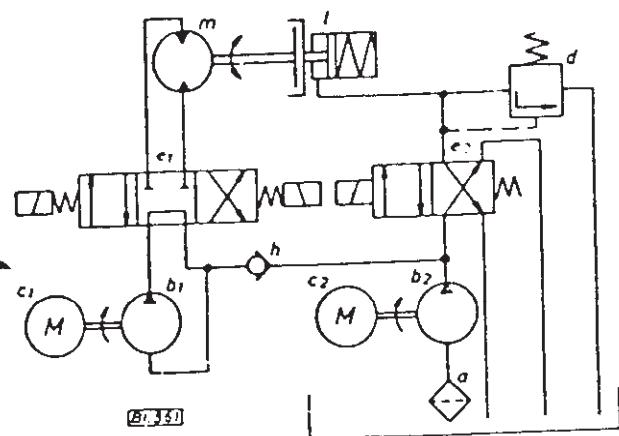

Fig. 3
7.1 Closed loop circuit: oil returned to intake (fig. 3). When the main valve for the hydraulic motor is actuated, the brake is simultaneously disengaged by a slave-valve.